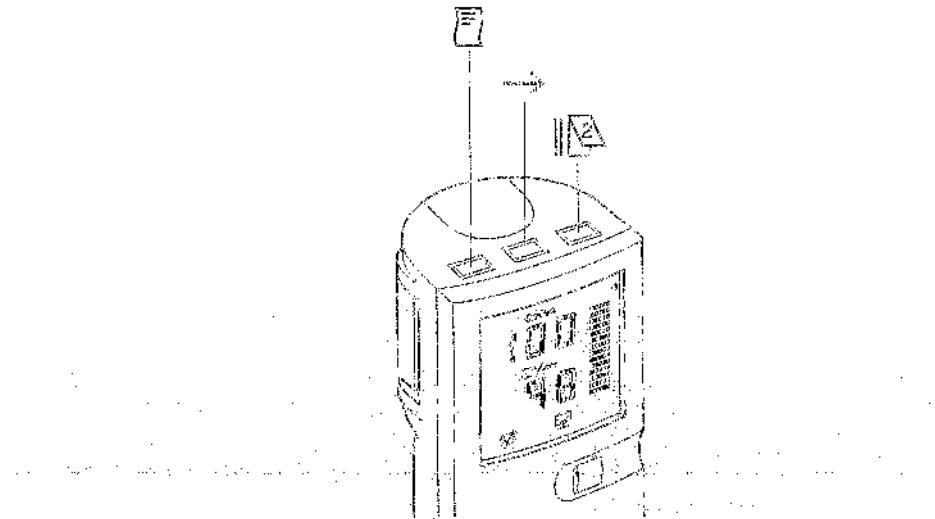

Figure 4: Button Location for Setting Clock
1. With the N-20P on, press the **[]** button. The OXYGEN SATURATION display shows a "t" (time) followed by a flashing display of the hour. Press **→** to change the hour (Figure 4).